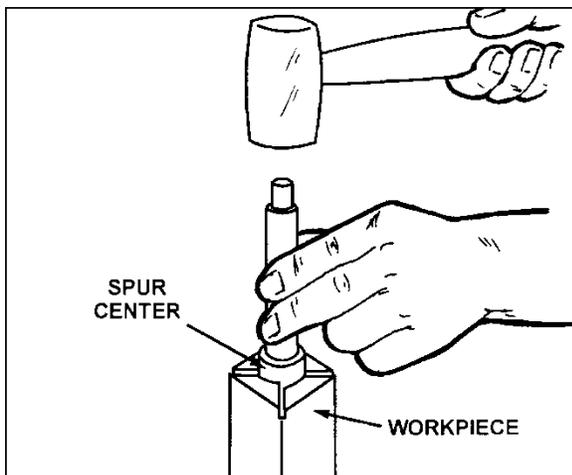

Figure 28
3. Drive the spur center about 1/4" into the workpiece, using a wood mallet or dead blow hammer as shown in Figure 28. Be careful that you do not split the workpiece. **Never use a steel face hammer and never drive the workpiece onto the spur center while it is mounted in the lathe spindle.**